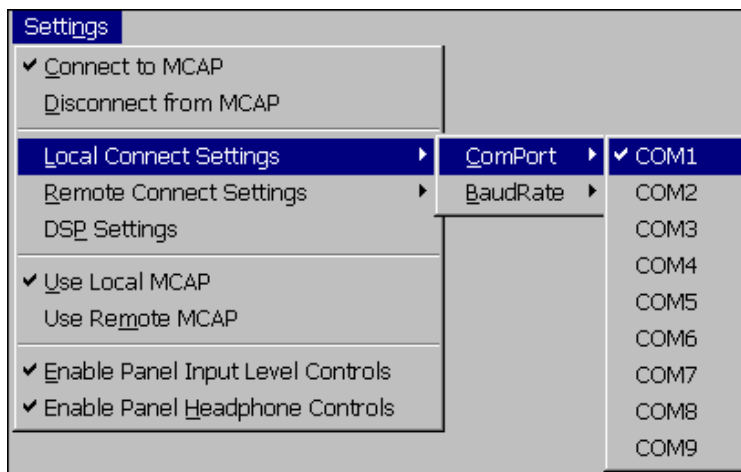

Figure 6-1 ComPort Selection Menu
2. When the pulldown menu appears, click on "Local Connect Settings", then "ComPort". The display will now appear as follows (Figure 6-1).